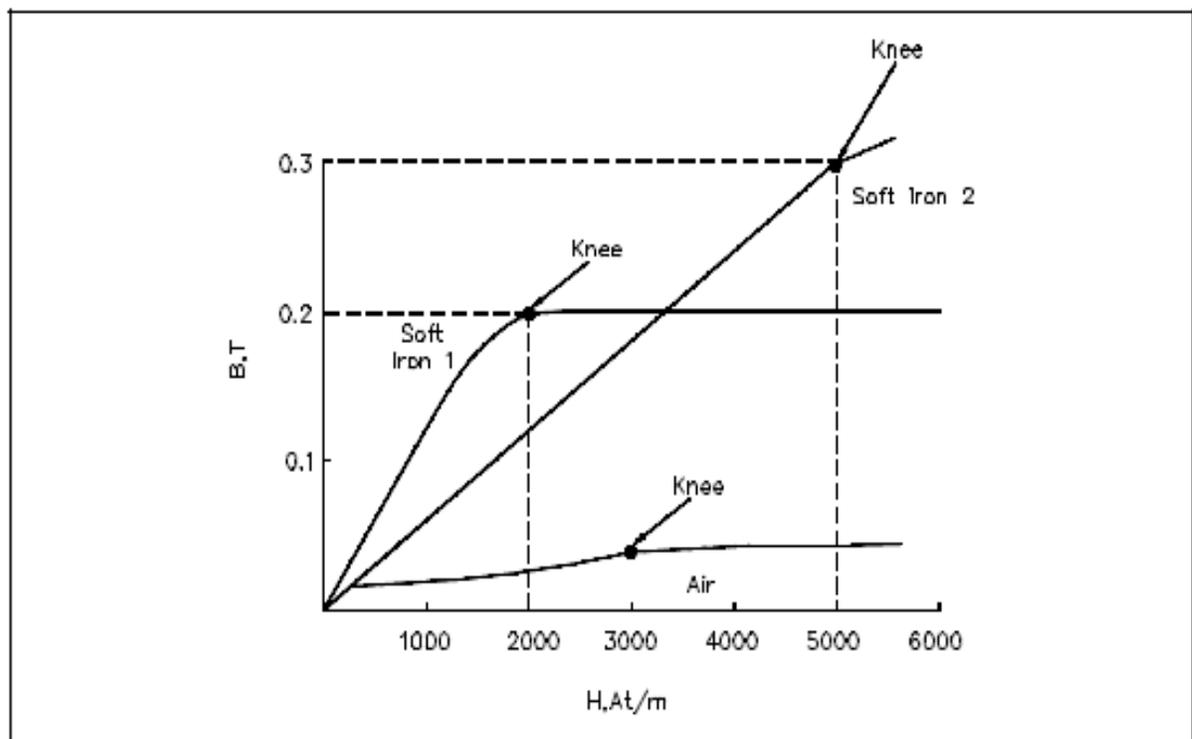

Figure 16. Typical BH Curve for Two Types of Soft Iron
Generally different types of materials have different values of reluctance (Figure 16). Air gap is the air space between two poles of a magnet. Since air has a very high reluctance, the size of the air gap affects the value of reluctance: the shorter the air gap, the stronger the field in the gap. Air is nonmagnetic and will not concentrate magnetic lines. The larger air gap only provides space for the magnetic lines to spread out.
The BH Magnetization Curve (Figure 16) shows how much flux density (B) results from increasing the flux intensity (H). The curves in Figure 16 are for two types of soft iron cores plotted for typical values. The curve for soft iron 1 shows that flux density B increases rapidly with an increase in flux intensity H, before the core saturates, or develops a “knee”. Thereafter, an increase in flux intensity H has little or no effect on flux density B. Soft iron 2 needs a much larger increase in flux intensity H before it reaches its saturation level at  $H = 5000 \text{ At/m}$ ,  $B = 0,3 \text{ T}$ .
Air, which is nonmagnetic, has a very low BH profile, as shown in Figure 16.